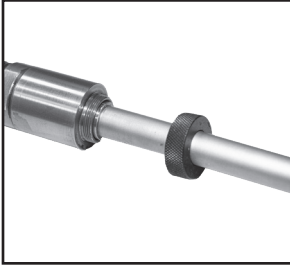

FIGURE 11
- FIGURE 11 - Remove the gas bonnet cap and copper gas washer.